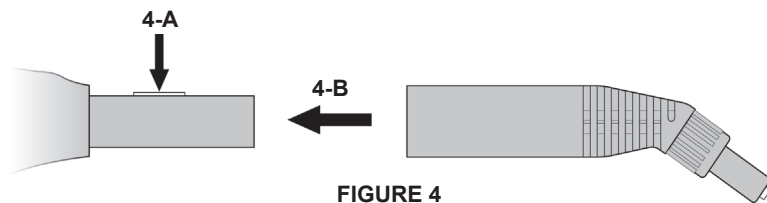

FIGURE 4
2. Press down on blue lock/release button (FIGURE 4-A). While continuing to hold button down, slide accessory onto Steam Nozzle (FIGURE 4-B). Push accessory over button, and continue pushing until button snaps through rectangular hole.